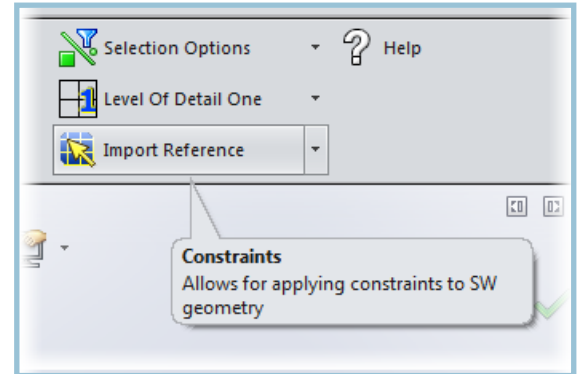

Figure 3 – Selecting Import Reference
4. From the Power Surfacing tab, select Import Reference (Figure 3).